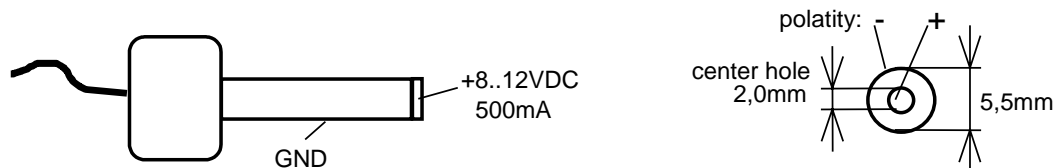

Figure 4: Power Connector
- Using the included power adapter, connect the power socket on the board (P3) to a power supply (refer to Figure 4 for the right polarity).